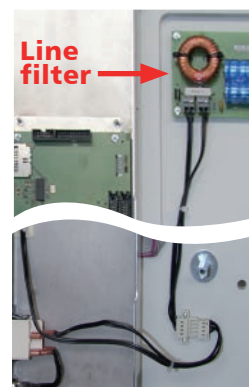
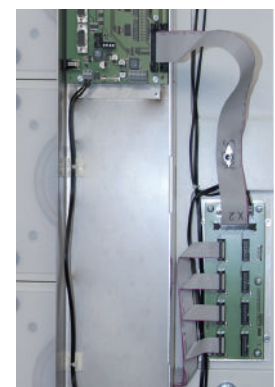

fig. 3.1-28
fig. 3.1-29
Please note: At the right frame cover, you will find the control panel of the twall. The cable connections to the line filter are shown in *fig. 3.1-28*. *Fig. 3.1-29* displays the flat ribbon cables that connect the module to the manifold PCB.
Step 25 Remove the protection film at the stainless steel frame covers. Once you have checked and restored the cable connections (*fig. 3.1-28 and fig. 3.1-29*), screw them back on again using eleven (11) the fillister head screws. Please handle the electric cables very carefully.